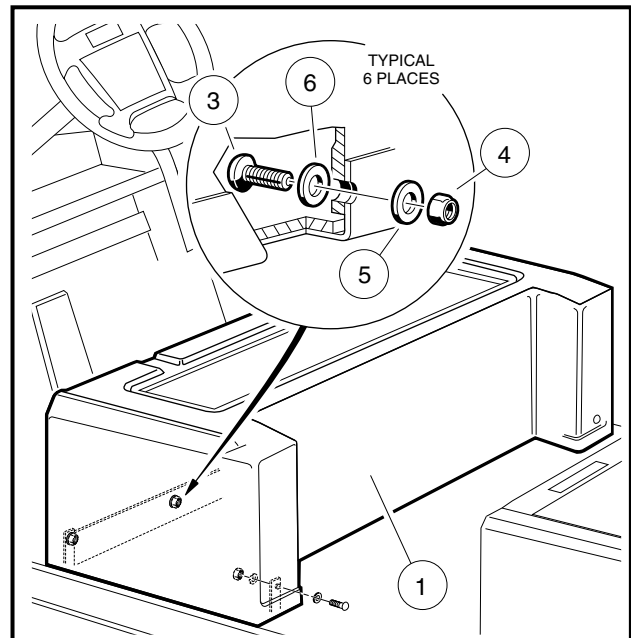

Figure 4-3 Center Body Removal
15. Remove the wire ties (22) that secure choke cable to the vehicle frame.
16. Remove three screws (19), nuts (21) and washers (20) from body and remove choke cable assembly from body.
17. Remove the screws (3), nylon cup washers (6), flat washers (5) and lock nuts (4) and lift the center body from the vehicle frame (**Figure 4-3, Page 4-3**).
1. Install in reverse order of removal. Torque screws (3) and lock nuts (4) to 18 in-lb (2.0 N·m) (**Figure 4-3, Page 4-3**).